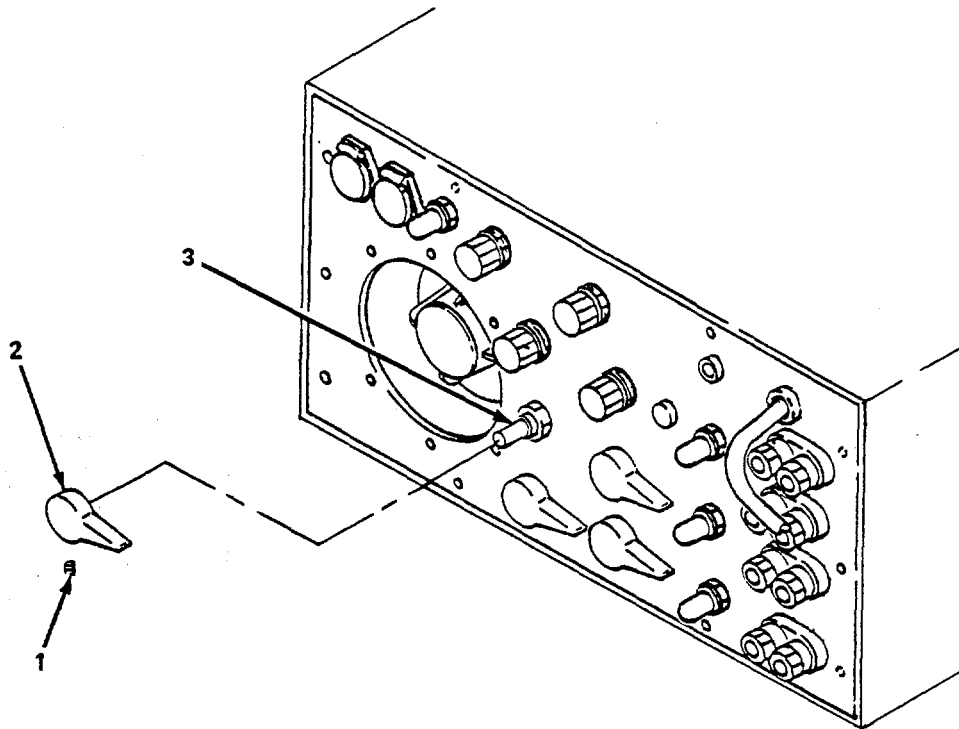

Figure 5-15. Control Knob, Replace.
- (3) *Control knob replacement.* (figure 5-15).
- (a) Loosen setscrew (1).
- (b) Pull knob (2) from control shaft (3).
- (c) Install knob (2) on control shaft (3).
- (d) Secure with setscrew (1).
- (4) Model 11311 spare parts kit. The Model 11311 spare parts kit contains many miscellaneous items too numerous to list in this publication. Parts in this kit should be used on an as needed basis. Procedures for removal and installation of these parts must be determined by appropriate maintenance facility.